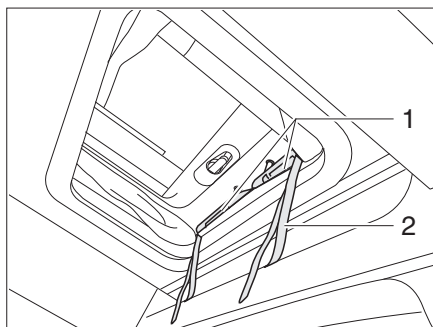

Fig. 52 Opening the pop-up roof
- Loosen the safeguards (Fig. 52,2).
- Press the locking mechanisms at the handles (Fig. 52,1) of the pop-up roof.
- Pull the pop-up roof closed at the handles (Fig. 52,1) until the locking mechanism latches in audibly.